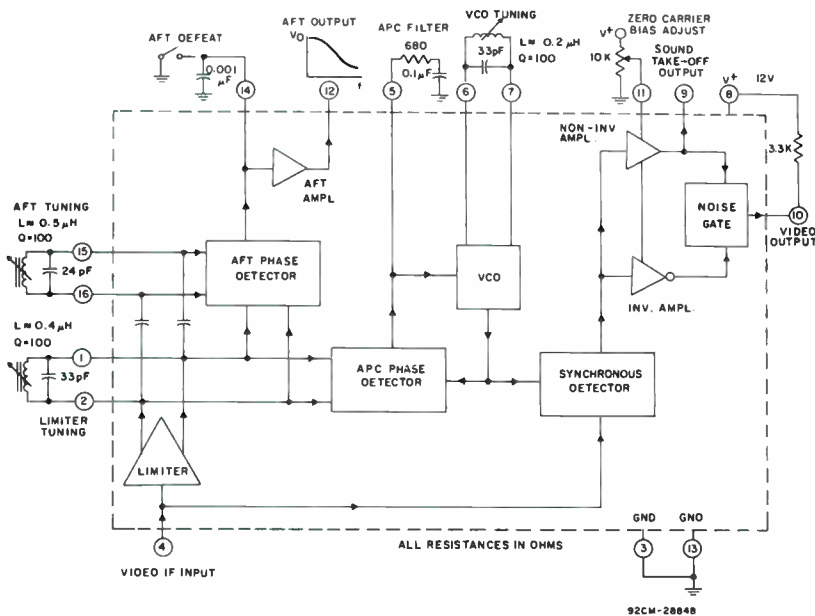

Fig. 1 - Block diagram of the CA3136E in a typical circuit application.
Fig. 1 shows a block diagram of the CA3136E in a typical circuit indicating the internal functions as well as the external circuitry and signals. A 45.75-MHz, 100-mVrms (50-ohm) signal is applied to the VIDEO IF INPUT (Terminal 4). While monitoring the VIDEO OUTPUT (Terminal 10), make the following adjustments in the indicated sequence; (1) adjust the VCO TUNING coil for a dc signal (lock). (2) Adjust the LIMITER TUNING coil for a minimum dc voltage on Terminal 10. (3) Adjust the VCO TUNING coil for 5.2 Vdc on Terminal 5 (with 12 volt supply on Terminal 8). (4) Close the AFT DEFEAT switch and note the dc voltage at the AFT OUTPUT (Terminal 12). (5) Return the AFT DEFEAT switch to its open position, and adjust the AFT TUNING coil for the same dc voltage noted when the AFT DEFEAT switch was closed. (6) Remove the rf input and adjust the ZERO CARRIER BIAS ADJUST potentiometer for 7 volts dc on the VIDEO OUTPUT (Terminal 10). This final adjustment completes the alignment procedure.